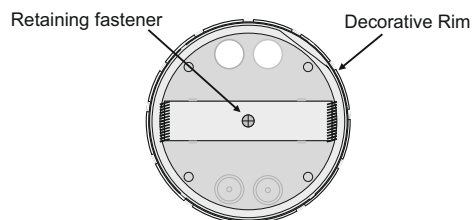

Figure 1
Step 2. Unfasten the retaining screw (Figure 1) and detach the part for suspended ceiling installation.